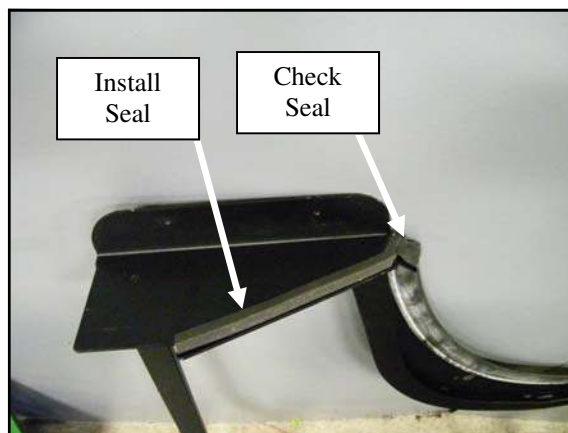

Fig. 6.1 (Left Side frame Seal)
6.1 Ref. Fig 6.1, install the remaining piece of 1/2" x 9/16" foam seal to the left side frame floorboard as shown. Check that the factory installed seal has not pulled off of the floorboard during shipping, push back in place before attaching to vehicle if it has.